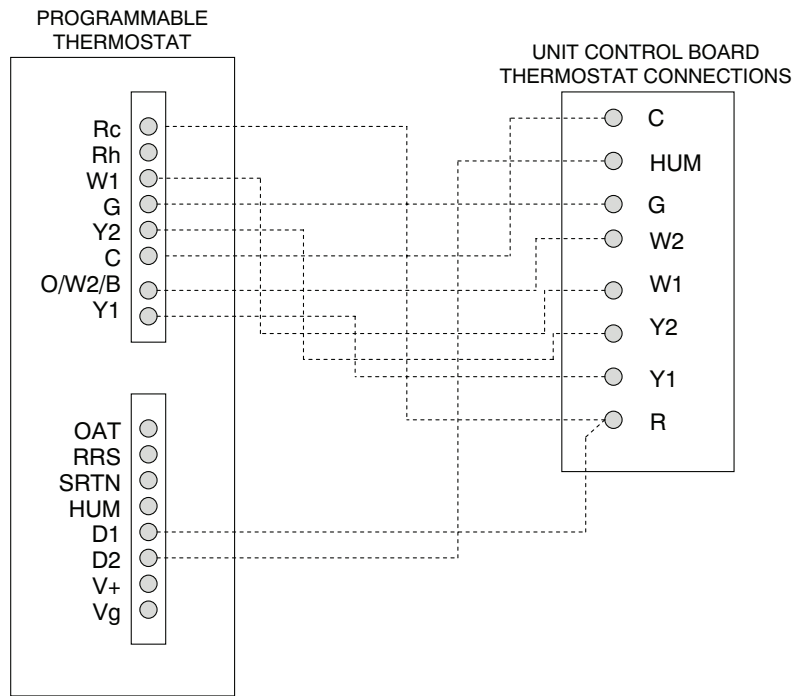

Fig. 37 — Typical 582K Unit with Perfect Humidity™ Adaptive Dehumidification System and Programmable Thermostat
3. The Thermidistat has dry contacts at terminals D1 and D2 for dehumidification operation (see Fig. 37). Connect D1 to the R terminal on the UCB. Connect D2 to the HUM terminal on the UCB. Refer to the installation instructions included with the field-supplied thermidistat device for more information.